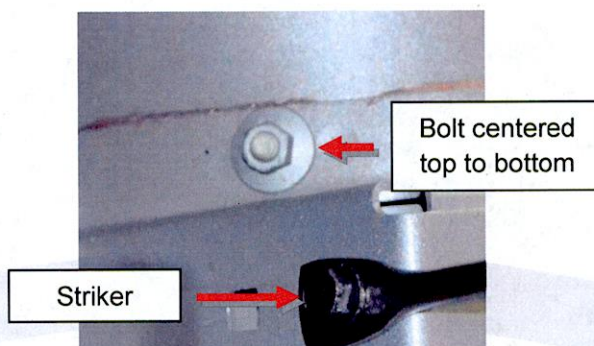

Figure 10 (Position 1 shown)
3. Have an assistant insert bolts into the 2 holes from the wheel side and hold them in place. Secure the nuts on the inside (Figure 10) (torque 12 Nm).